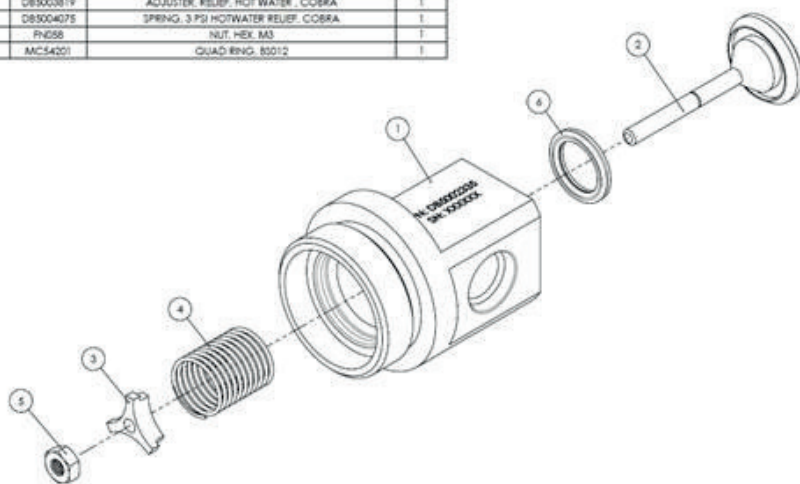

Figure 1 - Hot water relief valve
Refer to Figure 1
- Fit the test plug (DB5003843), test nut (DB5003844) and o-ring (E13330) to the hot water relief valve DB5002335 as shown in figure 1. These items are contained in the COBRA Tool and Test Kit. Fit a 3/8" UNF plug to the outlet of the relief valve
- See Figure 1
- Hold the stem (item 2) and turn the adjuster (item 3) clockwise to increase the set pressure or anticlockwise to decrease the set pressure, then retest.
- When 3psi +/- 0.2 psi has been achieved, tighten the locknut (item 5) against the adjuster, ensuring components are locked together.